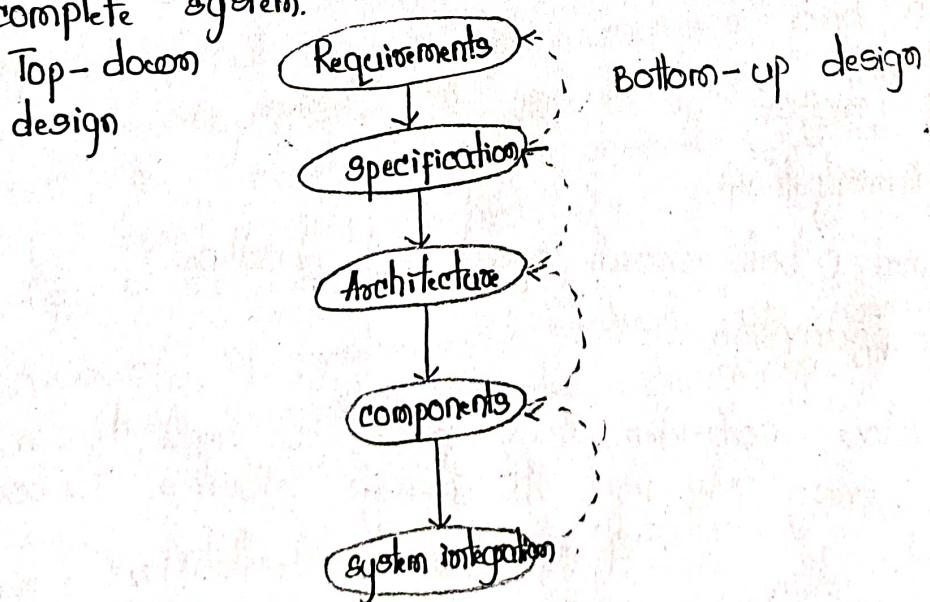

Figure 1. Major levels of abstraction in the design process.
- Fig 1. summarizes the major steps in the embedded system design process. (10)